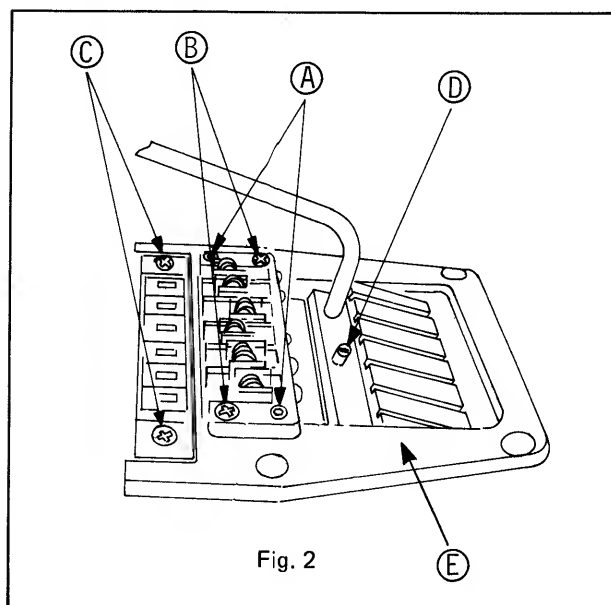

Fig. 2
1. Adjust worm screw D so that the edge F of rolling tailpiece is flush with top surface E of the base. (Also see Fig. 2.)